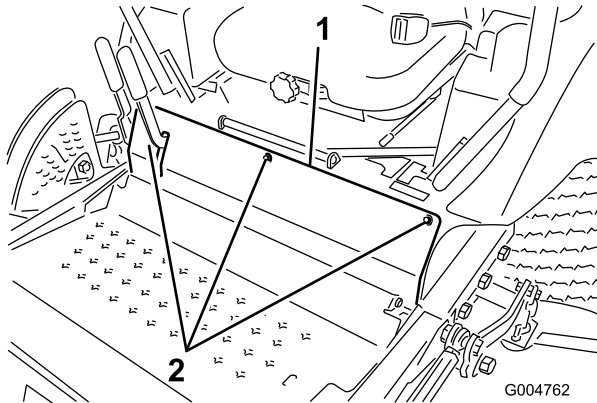

Figure 51
2. Remove the bolts securing the front panel and remove the panel (Figure 51).